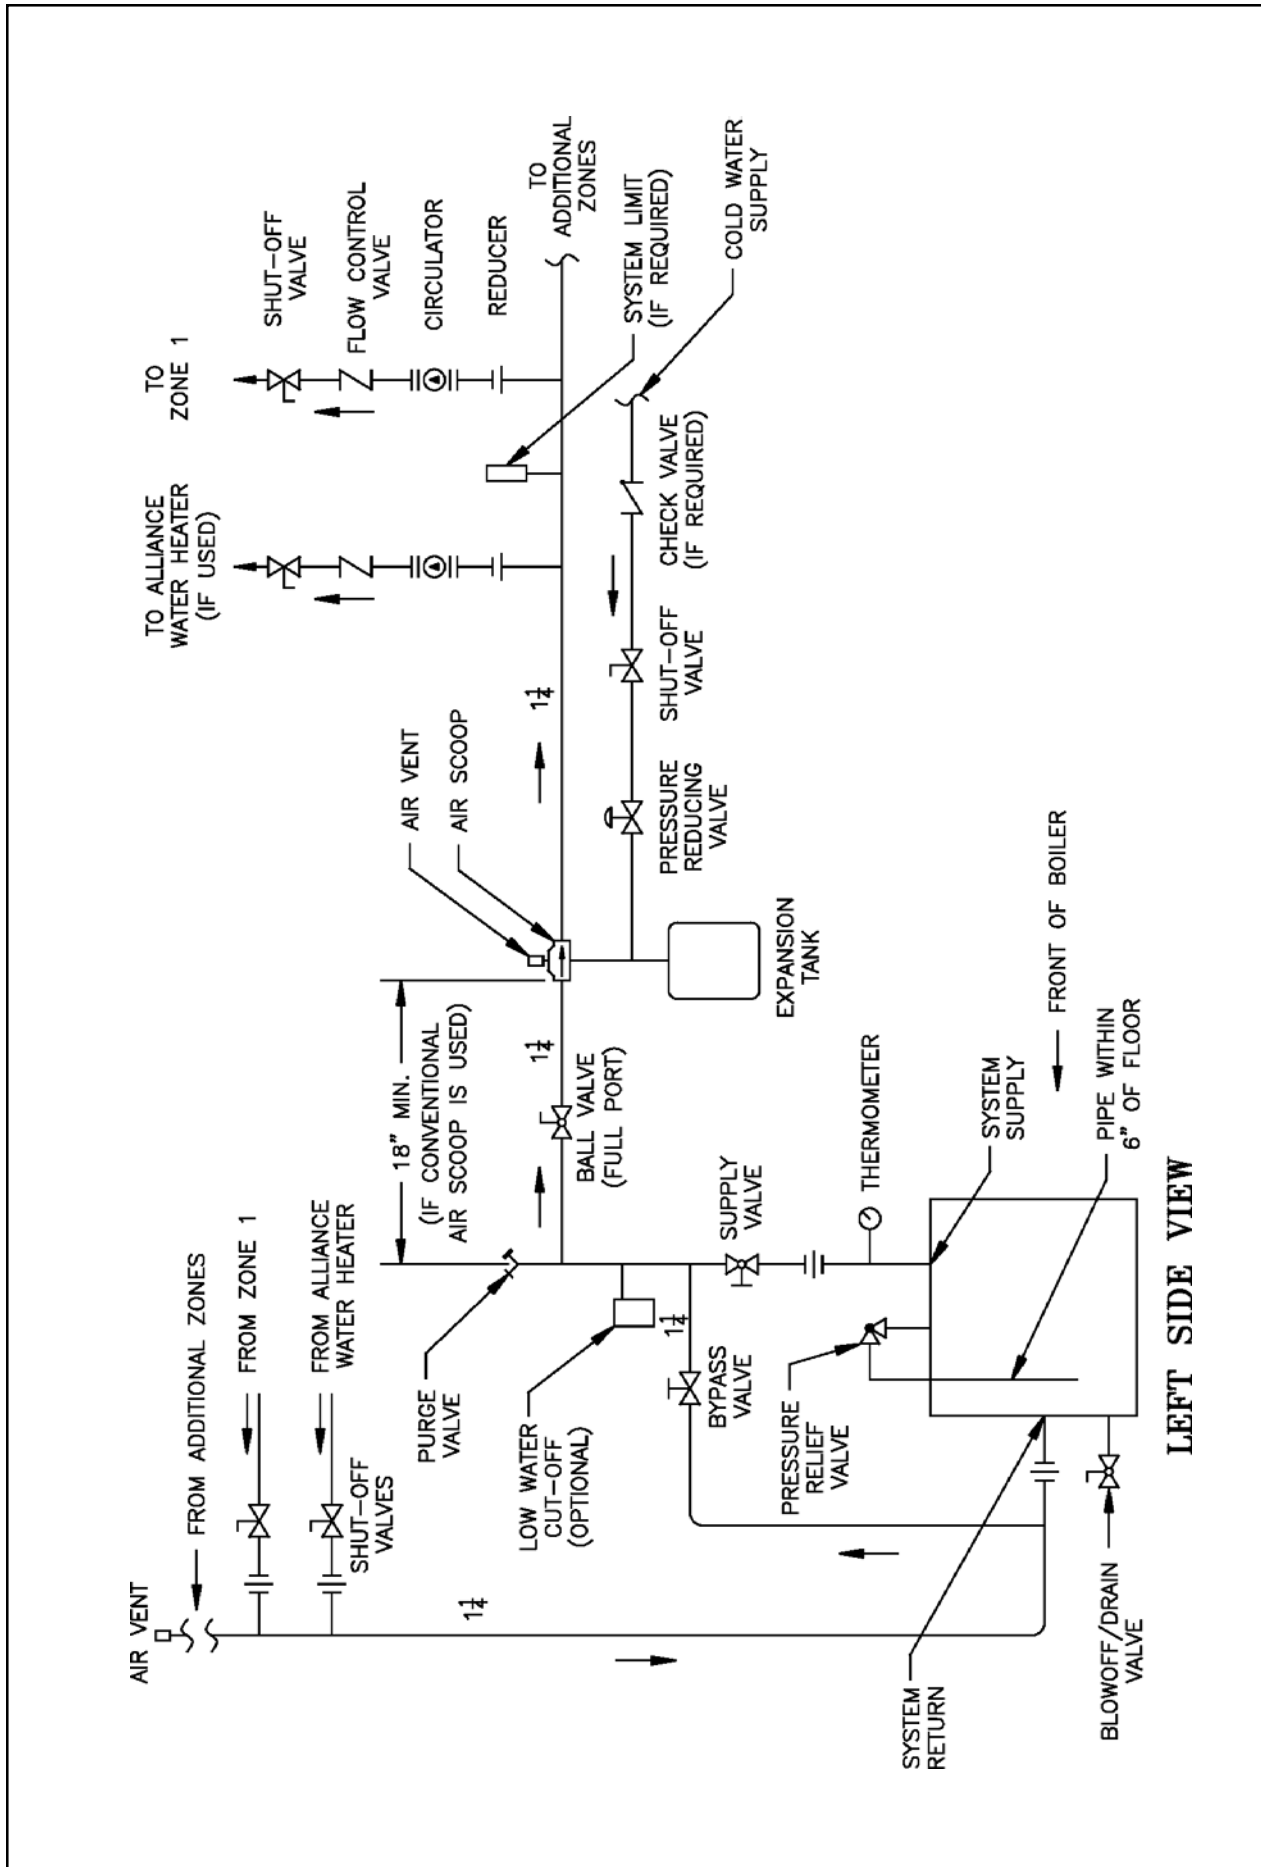

Figure 25: Recommended Boiler Piping for Circulator Zoned Heating Systems
F. Connect system supply and return piping to boiler. See Figure 25. Also consult I=B=R Installation and Piping Guides. Maintain minimum 1/2 inch clearance from hot water piping to combustible materials.
3. Use boiler bypass if boiler is operated in system which has a large volume or excessive radiation where low boiler water temperatures may be encountered (i.e. converted gravity circulation system, etc.). See Figure 25.